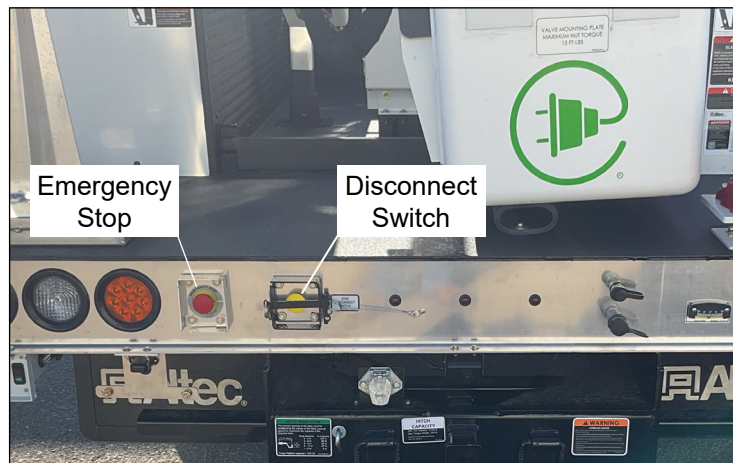

Figure 1 — JEMS Disconnect Switch and Emergency Stop
3. At the tailshelf, locate the yellow hybrid disconnect switch and emergency stop (refer to Figure 1). Make sure both functions are disengaged by pulling both switch knobs out.
- a. Disconnect and lockout/tagout the JEMS disconnect switch (refer to Figure 1).